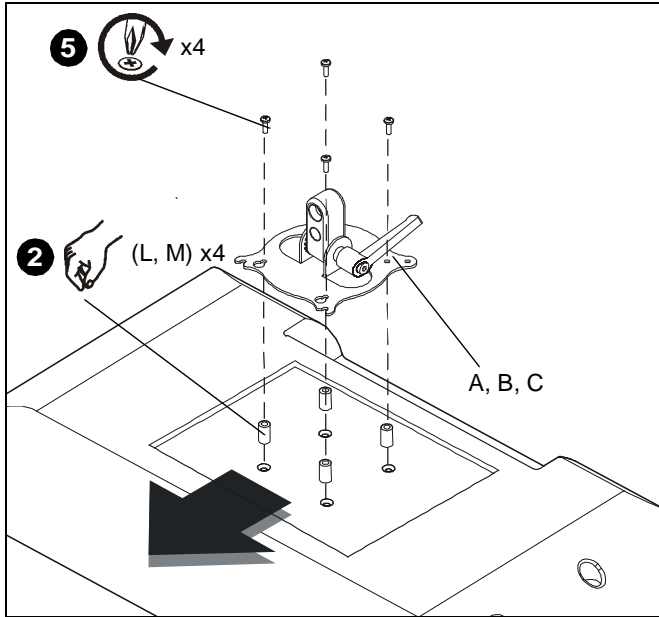

Figure 4
- If mounting holes are *recessed into* back surface of display, then place spacer (L or M, as applicable) over each mounting hole on back of display (See Figure 4). Select shortest spacer which will provide adequate fill. All spacers must be same length.
- If no spacers are required, then use screws (H).
- If using spacers (L), then use screws (J).
- If using spacers (M), then use screws (K).
5. Install screws (H, J, or K; as applicable) through mount (A, B, or C) and spacers (L or M, if applicable) into display. (See Figure) and (See Figure 4)